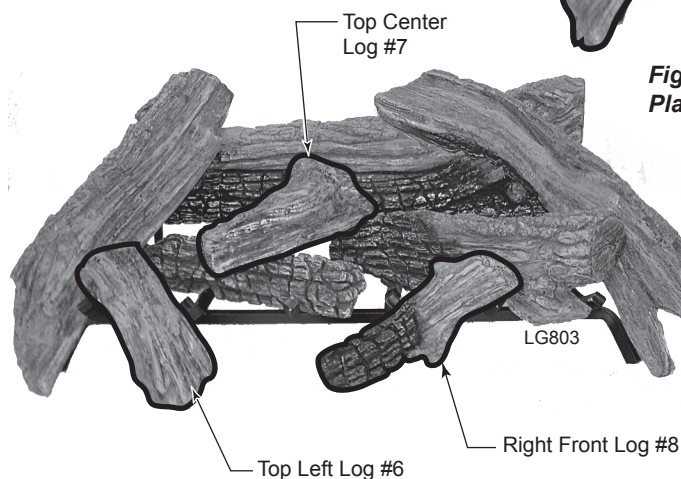

Figure 34 - Place Top Left Log #6, Top Center Log #7 and Front Right Log #8
6. Place end of Top Left Log #6 on bottom left log. Place the other end between the first and second grate prongs. *Figure 34*
7. Place Top Center Log #7 on bottom left log #2 and top right log #4. *Figure 34*
8. Place Right Front Log #8 on top right log #4 and front of burner pan. *Figure 34*